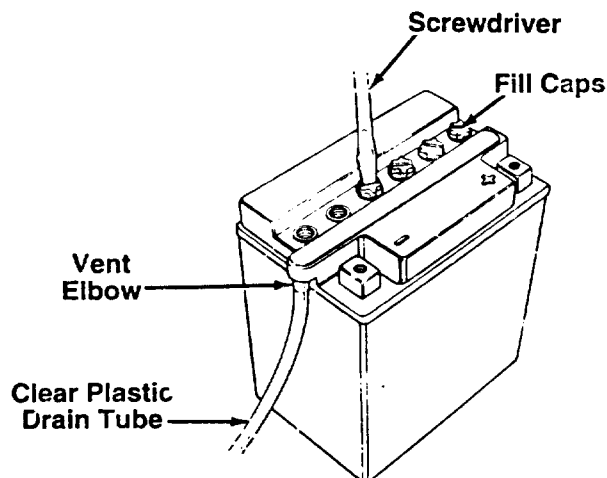

FIGURE 1.
4. Remove the six fill caps from the top of the battery with a screwdriver. Be careful not to damage the fill caps. See figure 1.